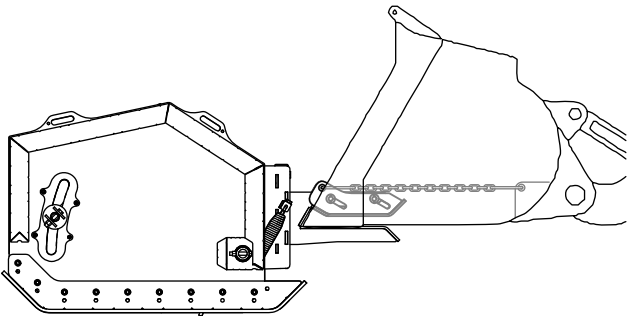

Figure 11
4. Secure the plow to the bucket using a transport chain that is at least 3/8 inch and Grade 70 or higher, as shown in Figure 11. Positioning the chains horizontal and without crossing ensures optimal mounting; weld on tabs may be required to achieve this.